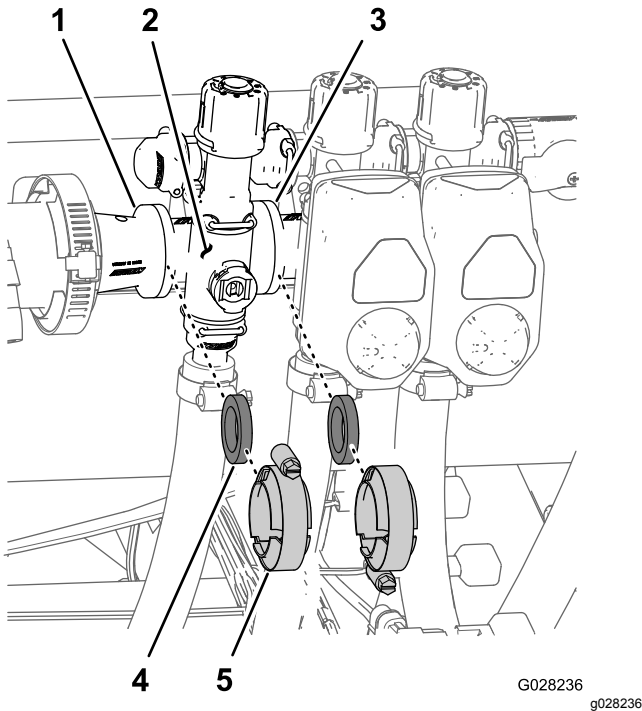

Figure 119
1. Remove clamps and gaskets that secure the manifold for the section valve (Figure 119) to the adjacent section valve (if left section valve, and the reducer coupling).